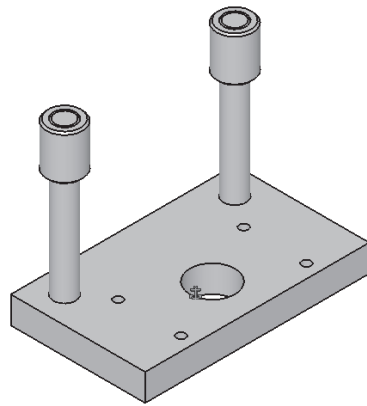

Figure 11-89 The assembly, after placing the second set of the Guide Pillar and Guide Bush
- d. Guide Pillar and Guide Bush are to be duplicated using the **Reuse Pattern** tool, refer to Figure 11-89.
Once both the components are duplicated, you can close the expanded branch of the specification tree. Figure 11-89 shows the assembly model, after placing the second set of Guide Pillar and Guide Bush.